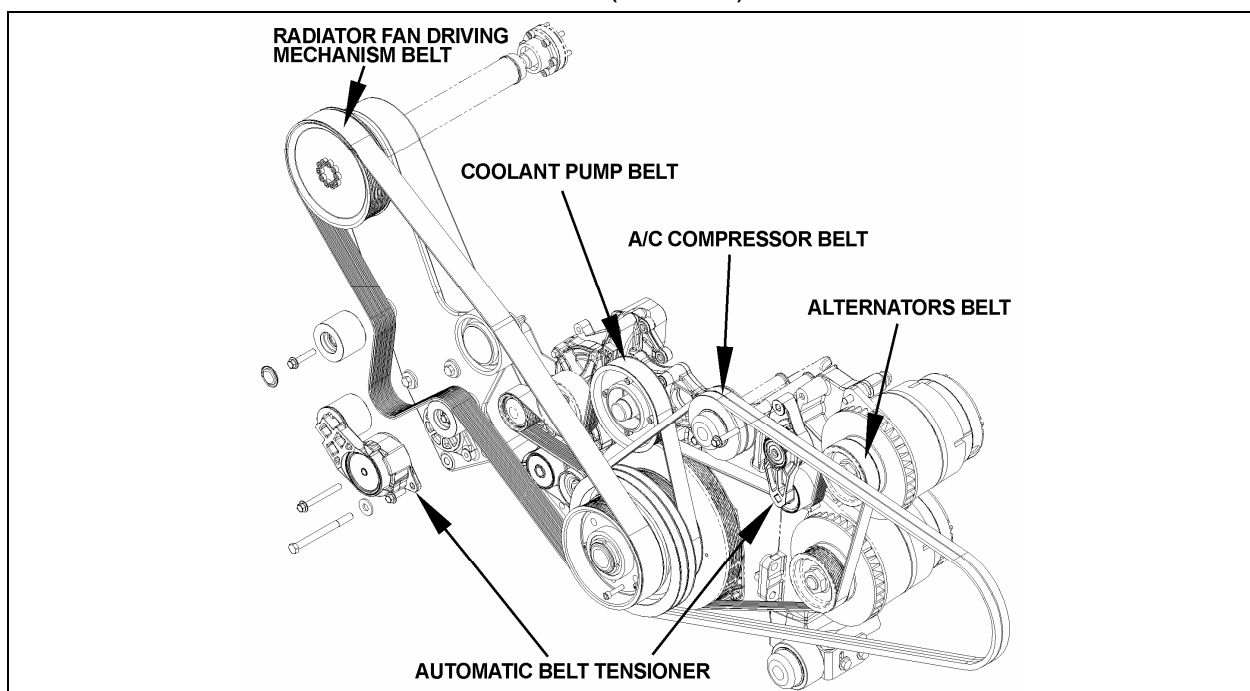

FIGURE 22: TWIN BOSCH ALTERNATORS INSTALLATION (VOLVO D13)
4. Install the alternators belt, the coolant pump belt, the A/C compressor belt and then the radiator fan driving mechanism belt (figure 22).
2. Insert a 3/4" socket drive into the automatic belt tensioner opening (Fig. 22).